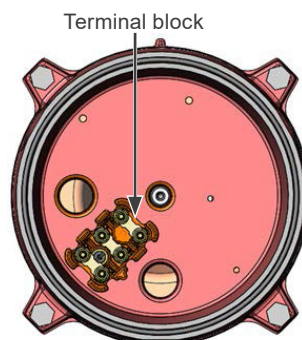
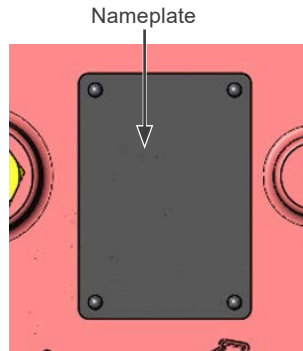

Figure 6.5: Detail of the terminal block
Figure 6.6: Detail of the motor data plate
Step 3: with the upper rear cover removed, you can see the terminal block and other connection components (which may vary depending on the motor). At this point, verify the desired connection according to the connection diagram on the motor nameplate, which is attached to the upper rear cover (Figure 6.5 de la página 5 and Figure 6.6 on page 6).